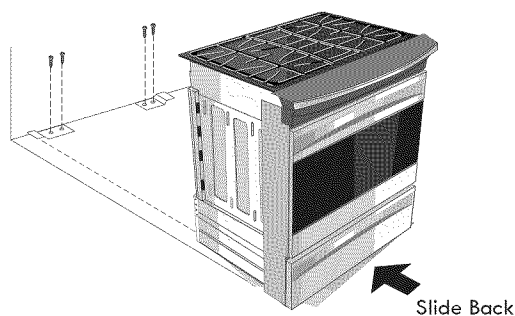

Figure 19
1. Unfold paper template and place it flat on the floor with the back and side edges positioned exactly where the back and sides of range will be located when installed. (Use the diagram below to locate brackets if template is not available. (Figure 19))